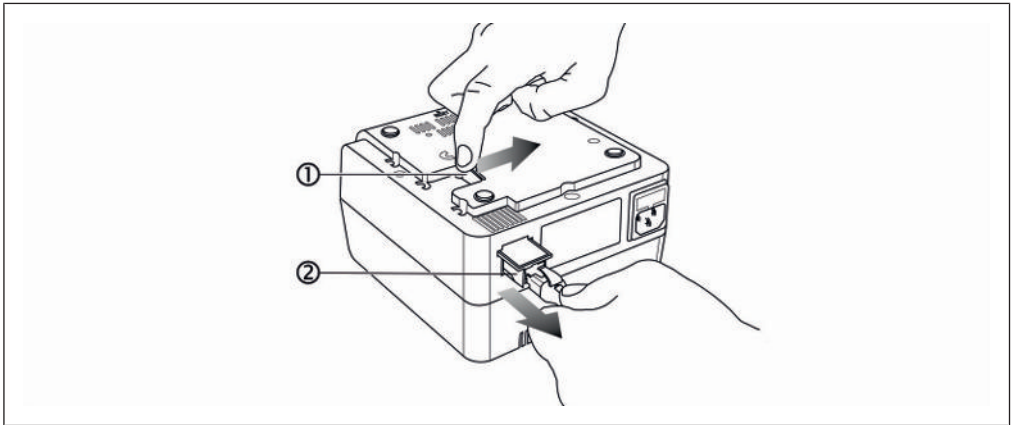

Fig. 13: Pulling out the Ethernet network card
- d) Press and hold the release lever [1] (see Fig. 13).